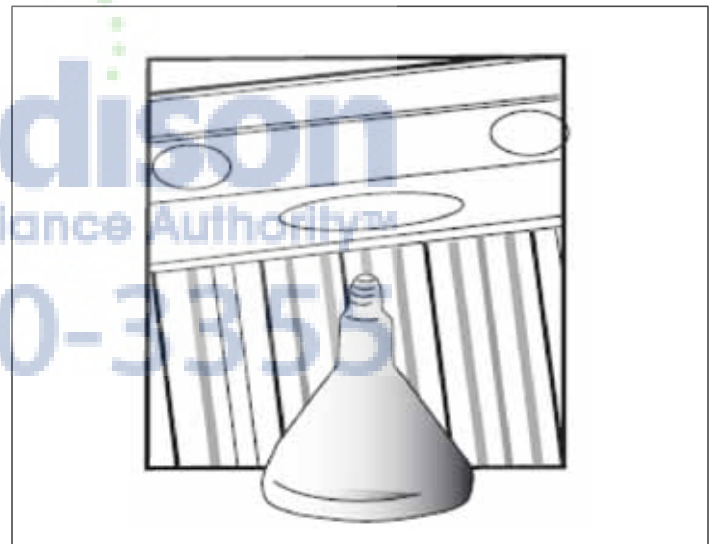

Figure 25: Heat Lamp Replacement
- Turn heat lamp clockwise to install (Figure 25).